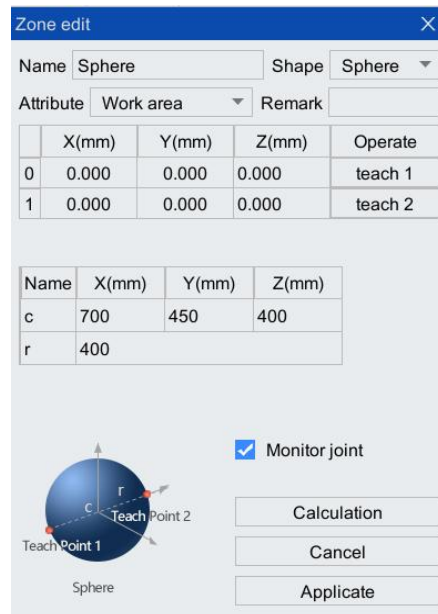

Figure 6-74 Editing interface of prohibited zone "Sphere"
- Step2. After setting of the prohibited zone, set a shape named "Sphere" as the prohibited zone of the ball, the coordinate value of the ball center is (700,450,400), and the radius of the ball is 400mm, as shown in Figure 6-74.